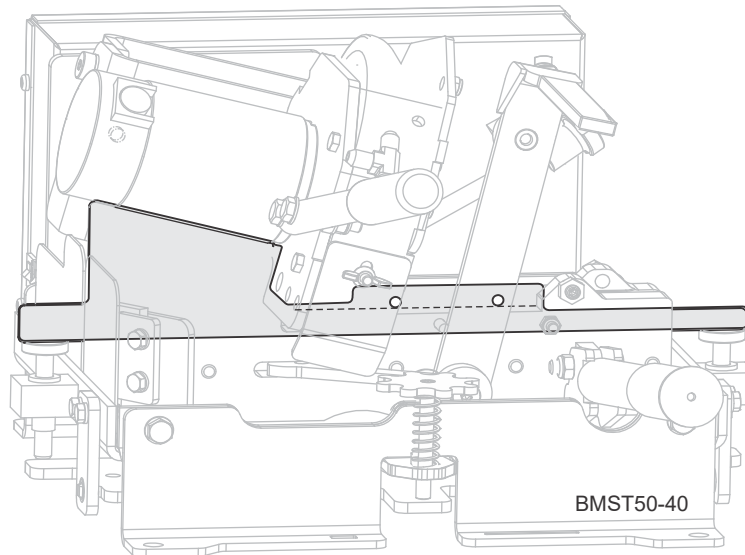

FIG. 4-2
The Sharpener & Setter is set at the factory to the proper cutting angle. If, for any reason, the angle becomes misaligned, it can be reset using the angle gauge plate SS20-999 provided. See fig. 4-2.
5. Fit the angle gauge in until it makes contact with the motor and motor housing. See fig. 4-2